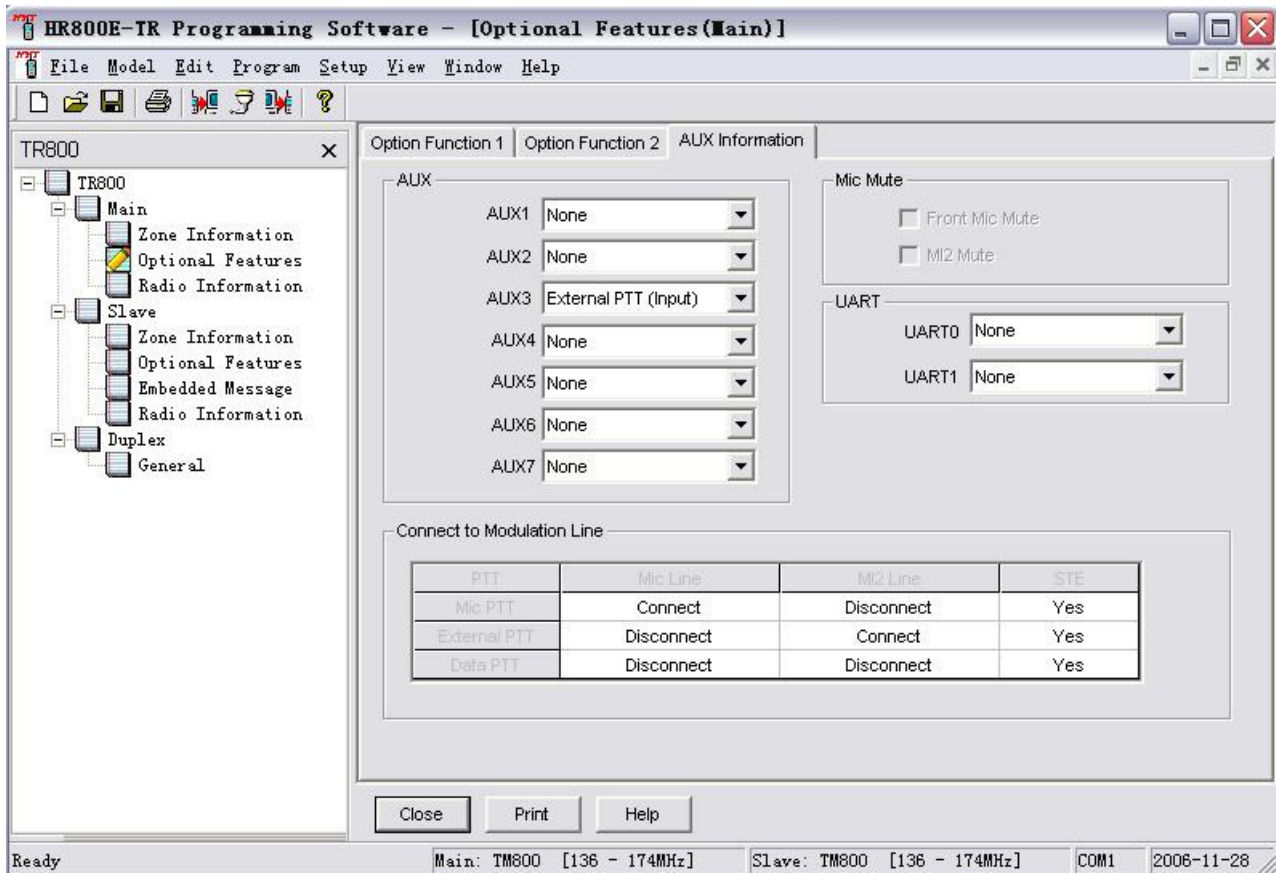

**Figure 7-4**
17. Check the "Ignition Sense" box to enable the Setup/Knockdown function. Click the down-arrow button next to the "Timed Power off" display. Each click will change the time by 1hour (h) or 1minute (m). For repeater setup/knockdown, decrease the timer to "0(h) 0(m)". Your screen should appear similar to **Figure 7-4**.